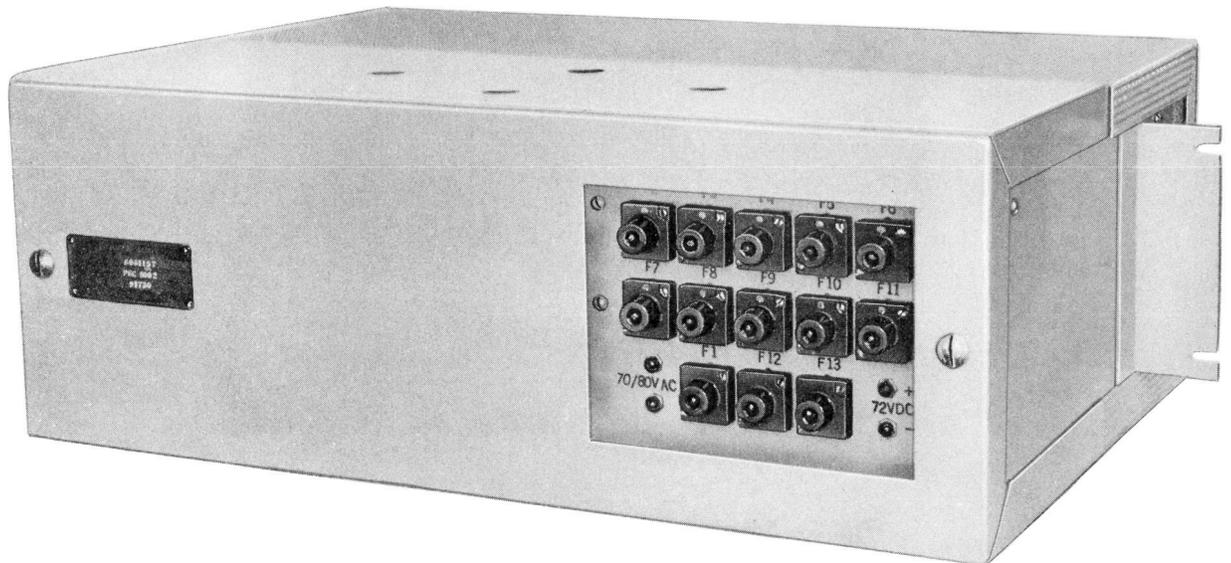

Fig. 1 — Power Supply, Front View
1.03 The equipment will supply 70 or 80 volts ac and 72 volts dc to a maximum of five Gfeller line concentrators. The power supply is completely transistorized and has one input. It is powered by 44 to 52 volts dc central office battery and therefore, does not require an emergency source of power. Figures 1, 2, and 3 show
1.04 As shown in Figure 1, the power supply is self-contained. The cover may be removed by turning the two screws one-quarter turn counterclockwise and withdrawing the cover. The back is removed in the same manner to gain access to the terminal strips for connections to the power supply.